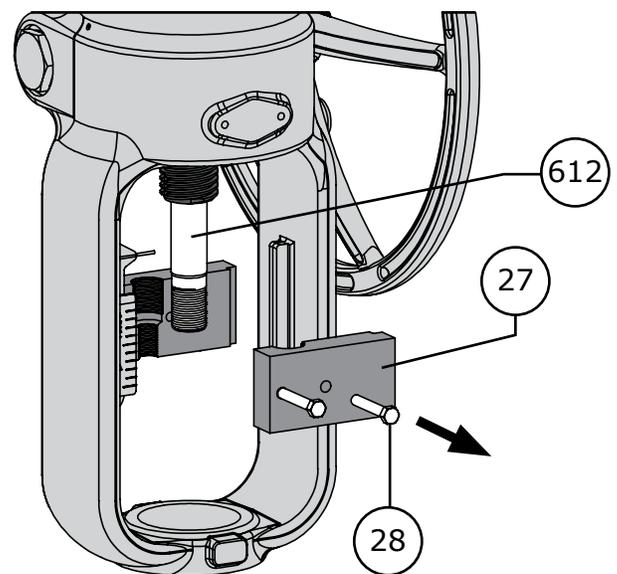

Figure 79 Connecting Block Removal
- 14** Remove the stem connector cap screws (Key 28) and remove the stem connector (Key 27) if still attached to the actuator stem (Key 612). Refer to Figure 79.